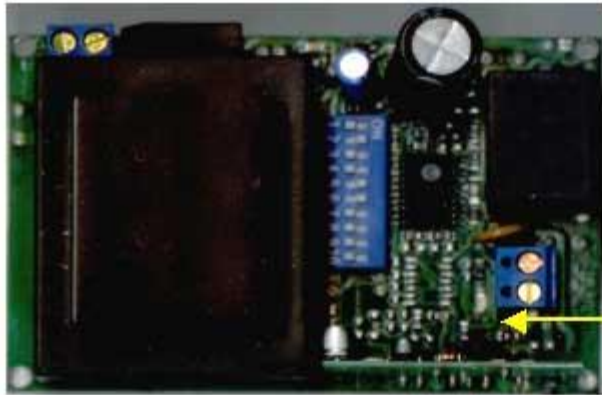

Fig.3
4. If the lights in the power pack are ON, then press the remote control button, at a close range. Everytime you press the button, you should hear a clicking sound from the power pack and another light in the power pack will switch off everytime you press and hold down the remote control button. Refer to Fig.3. Ensure on every remote control button press, you observe the light switching on, on the remote control. If not, the remote control battery could be needing replacement.
5. If you do not hear a clicking noise or see another light switch off, as shown in Fig.3, in the power pack, press the remote control by standing about 1 meter away from the power pack unit. If this does still not occur, refer to your dealer for a replacement power pack